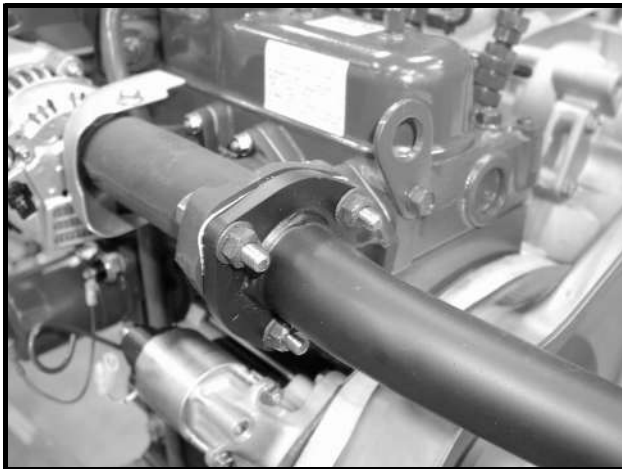

Figure 13b-10 Diesel Manifold Pipe Flange
1. Remove the manifold bolts and flange-head locknuts (**Figure 13b-10, Page 13b-7**).
3. Install new bolts and flange-head locknuts. Tighten the hardware to 21 ft-lb (28.5 N·m) (**Figure 13b-10, Page 13b-7**).